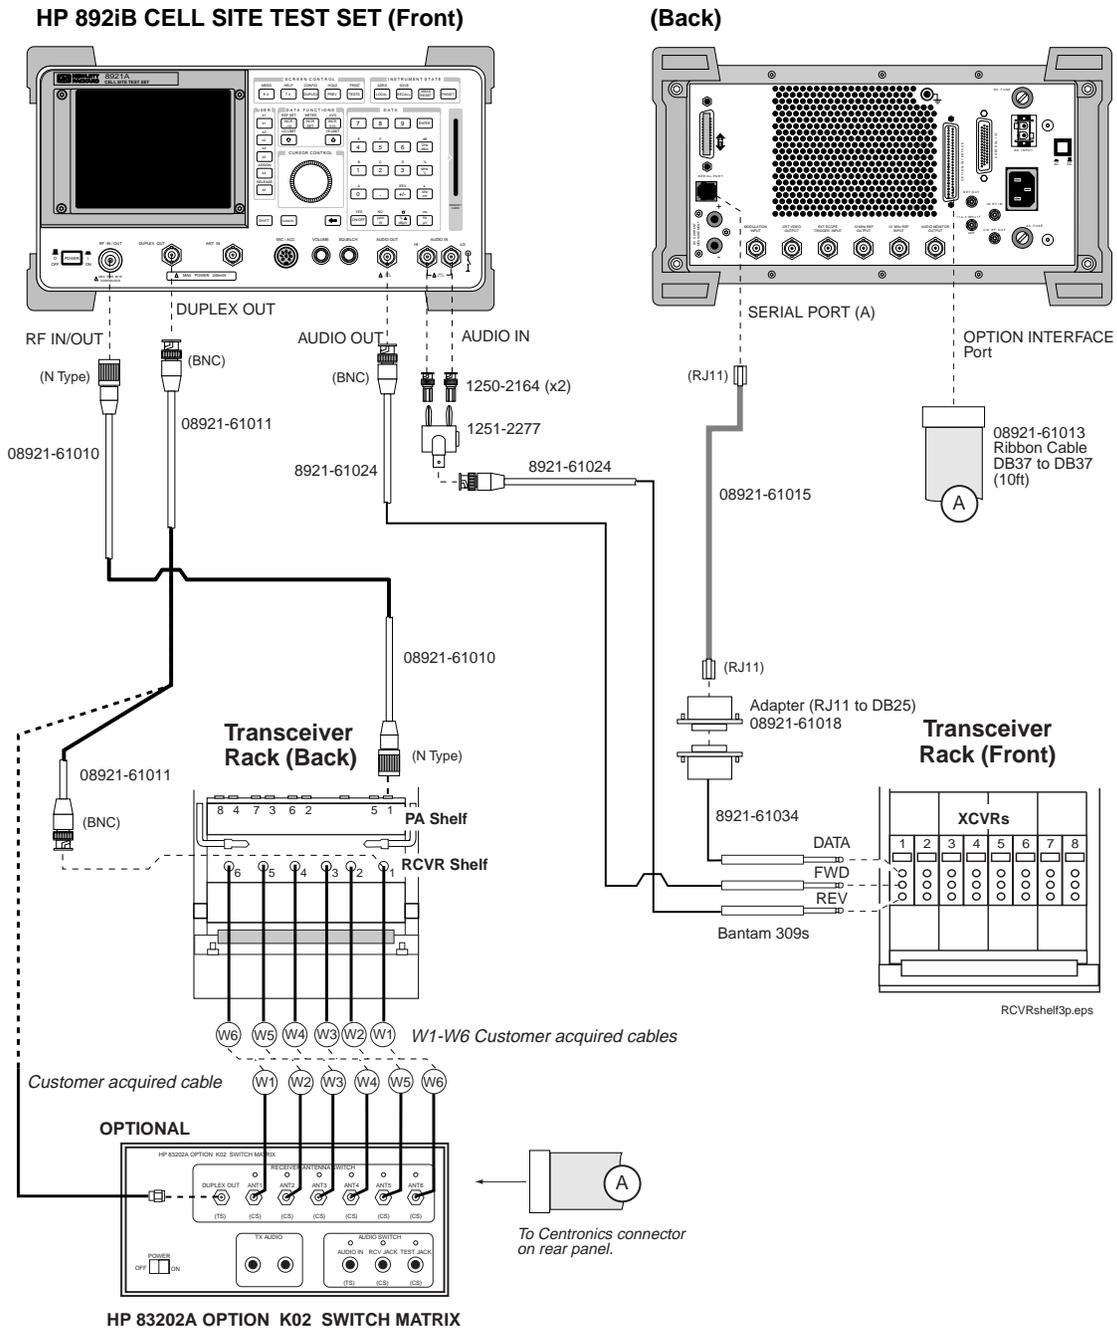
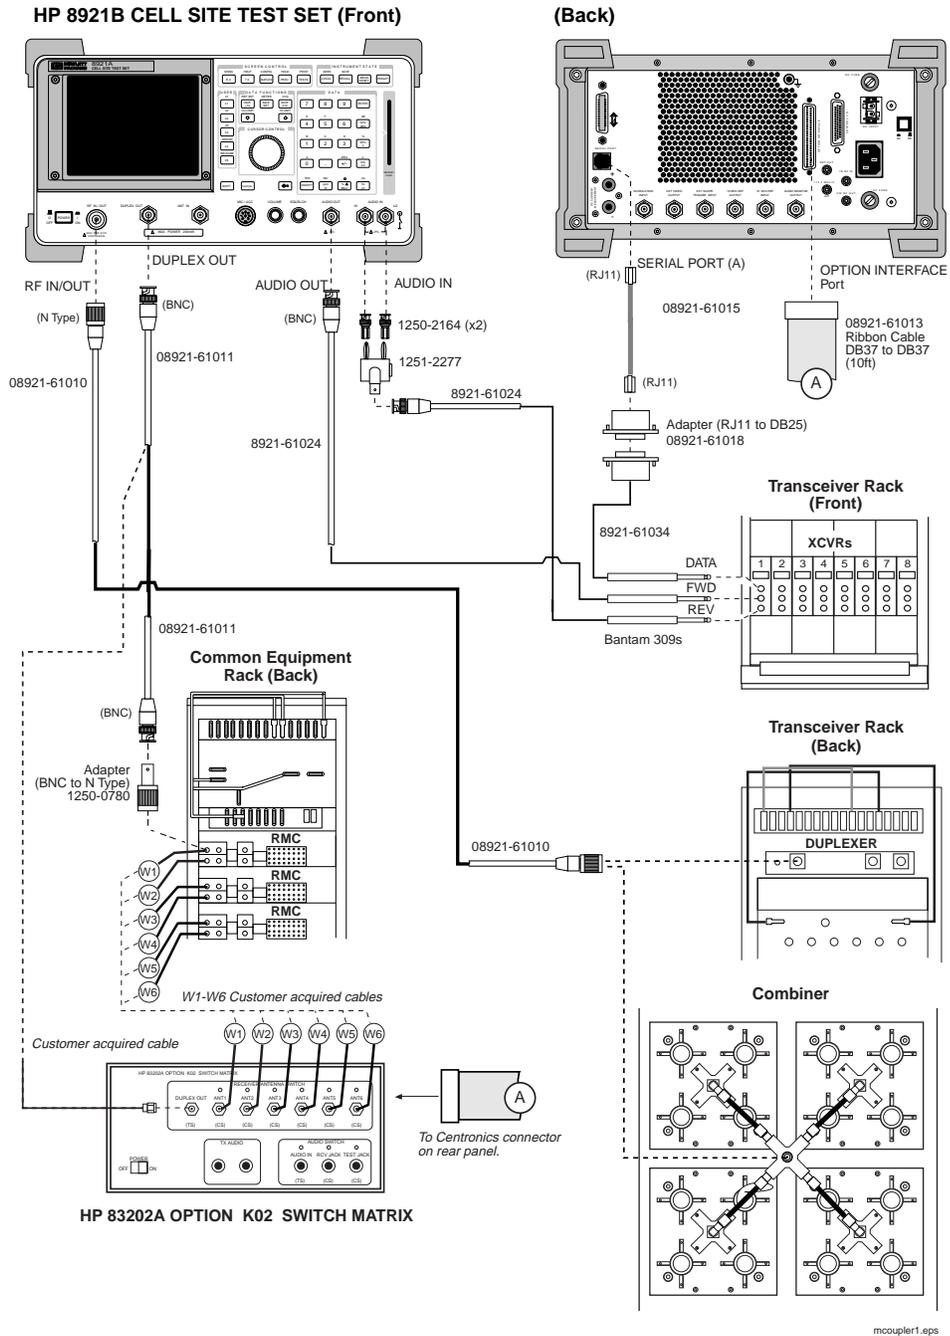

Figure 3 Test Set - P-Series Connections at Receiver Shelf and PS Shelf
Figure 4 P-Series Connections at Receiver Multicoupler Output and Duplexer Output
See figure 3 and figure 4 for a depiction of these connections. An RF cable is used to connect the RX shelf connector or RMC or Duplexer input to the Test Set DUPLEX OUT connector. The Test Software will prompt you when the connection must be changed.
See figure 3 and figure 4 for a depiction of these connections.
**NOTE:** If you are using the connectors supplied in the Accessory Kit, you must connect the BNC to Bantam 309 cable to the Dual Banana to BNC Adapter, and to the two BNC to Single Banana Adapters. See figure 3 and figure 4.